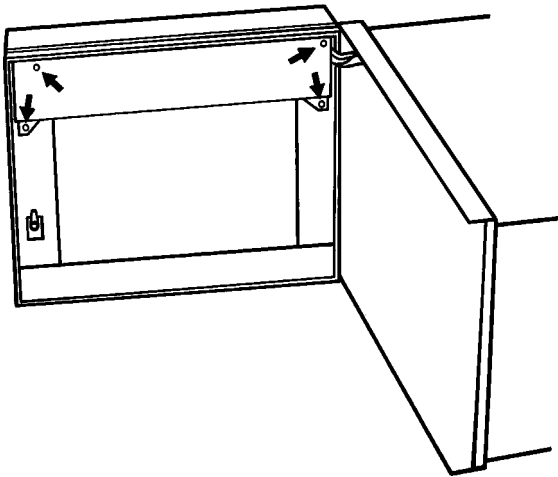

Figure 4.9.2a Cover fixing locations
2. Referring to figure 4.9.2a, release the existing cover plate by undoing the four securing screws. Retain the fixings for use in later re-assembly.